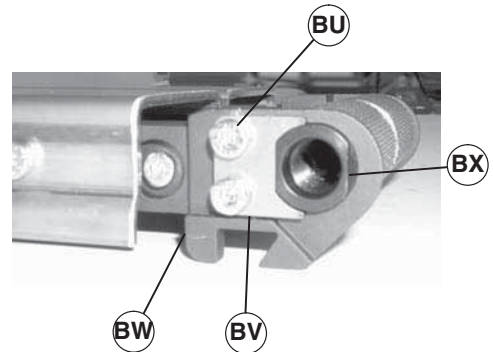
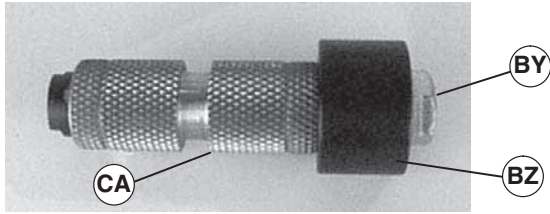

Figure 38
Figure 40
- Remove two M5 low head screws (Figure 38, item BU) and clip (BV) from head plate (BW).
If retaining sleeve(s) (Figure 38, item BX) and (Figure 39, item BX) does not slide out::
- Assemble removal tool (part # 25-09*) (Figure 40, item BZ) and bolt (part # 906-278*) (BY) on spindle (CA), as shown
- Tighten bolt (BY) to remove bearing sleeve (Figure 38, item BX) and (Figure 39, item BX) from spindle (Figure 40, item CA).